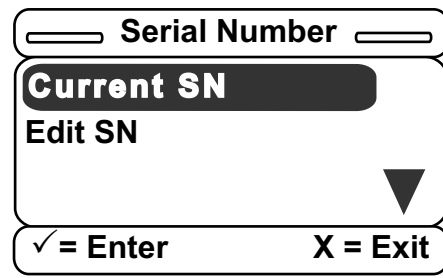

Figure 47 – Serial Number screen
23. There are two options available (Figure 47). **Current SN** will display the saved serial number, while **Edit SN** will allow you to edit the existing serial number.